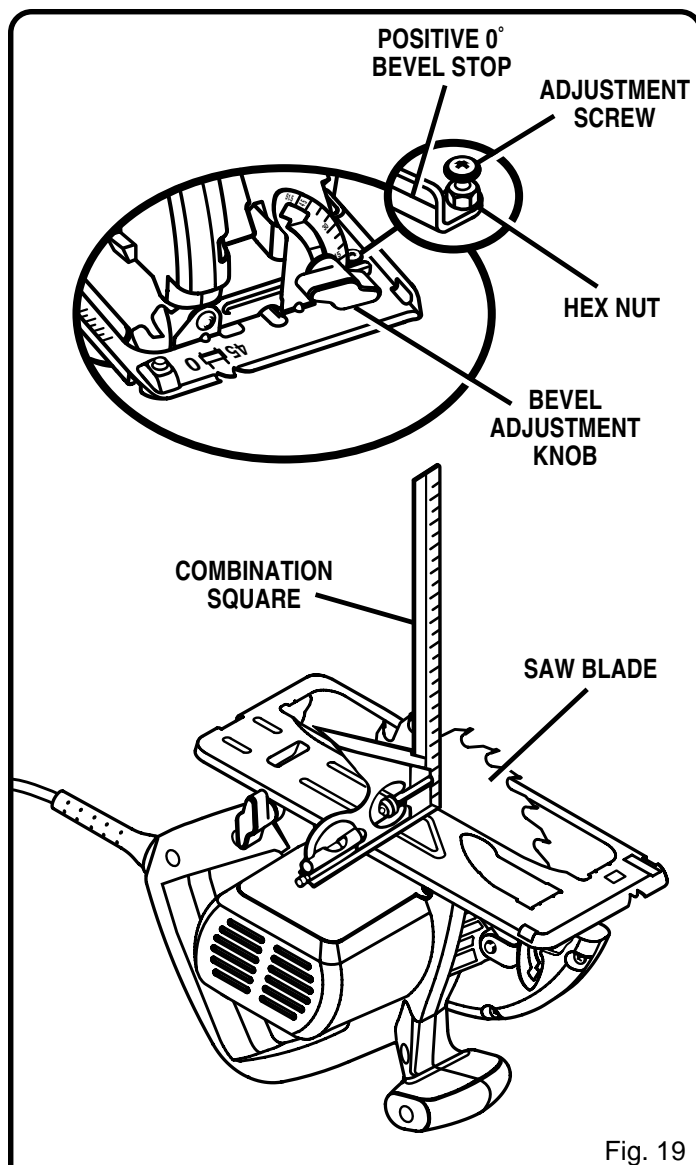

Fig. 19
See Figure 19.
- Place your saw in an upside down position on workbench. See Figure 19.